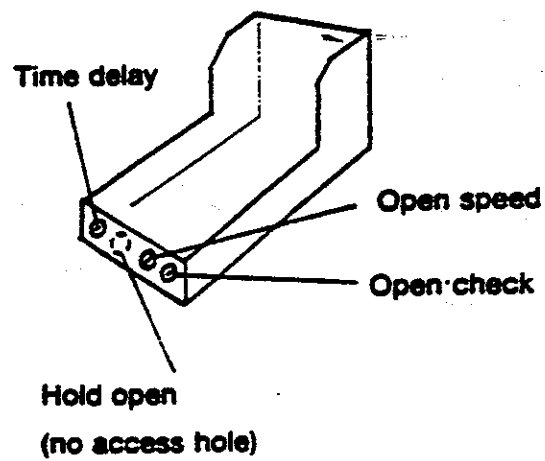

Figure 2
14) More time delay needed in open position.	Control Box I - no time delay in control box, add external time delay p/n 514466. Control Box II -adjust time delay control. See Fig. 2 -next page.